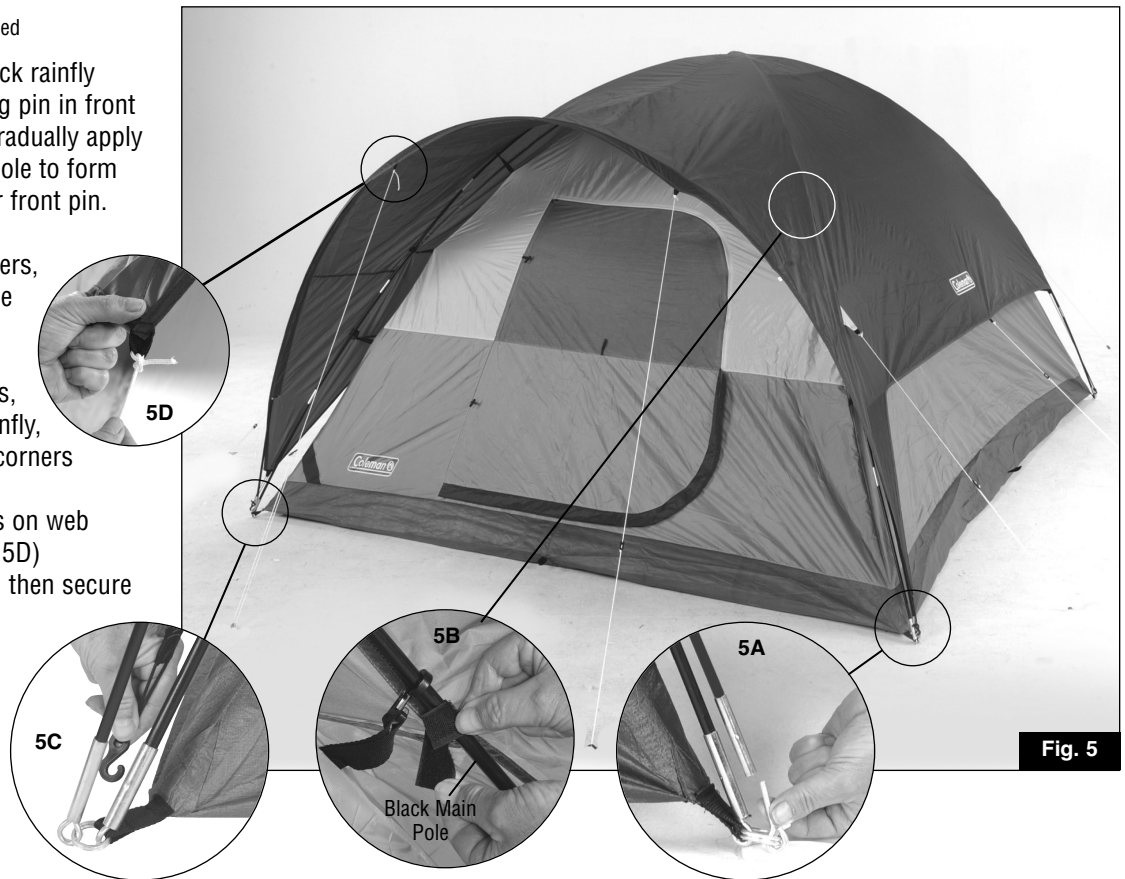

Fig. 5
6. Insert one end of each black rainfly awning pole into remaining pin in front corner of tent (Fig. 5A). Gradually apply pressure to other end of pole to form an arch & insert into other front pin. (Fig. 5)